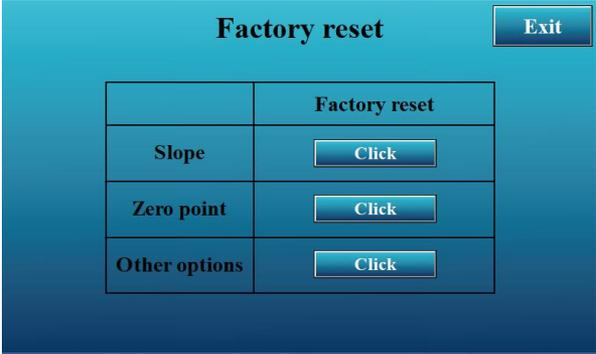

Fig.17 Factory reset interface
**Factory reset:** Click the "Factory reset" button on the Menu interface to enter the "factory reset" interface. "Factory reset" includes "Slope", "Zero point", and "Other options", as shown in Fig.17.